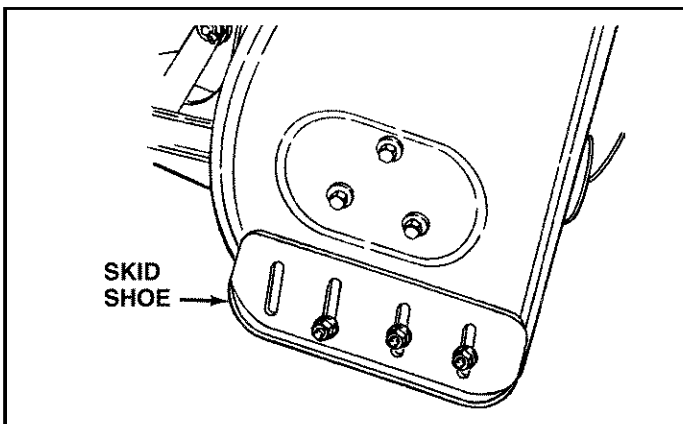

FIGURE 37
## CHECK SCRAPER AND SHOES FOR WEAR (Refer to figures 37 and 38 on page 20.)
- Raise the snow thrower off the ground and place a block under each end of the scraper plate. Loosen the six hex nuts securing the skid shoes to the housing. Adjust the skid shoes up or down and retighten the nuts securely. Adjust both skid shoes to the same height to keep the housing and the scraper plate level. See figure 37.